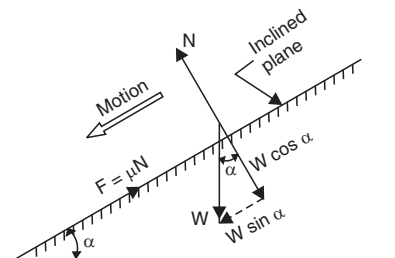

Fig. 6.4
Refer to Fig. 6.4. Consider a body of weight  $W$  acting on a rough horizontal plane inclined at angle  $\alpha$ . The body is in equilibrium under the action of the following forces :
- (i) Weight,  $W$  (which may be resolved into two components  $W \sin \alpha$  and  $W \cos \alpha$  as shown in Fig. 6.4)